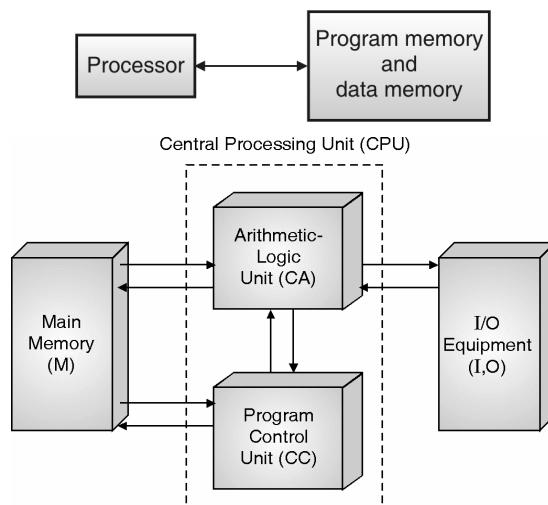

Fig. 9.3.1 : Von Neumann Architecture of a computer
- Fig. 9.3.1 shows the connection for Von Neumann architecture of computer.